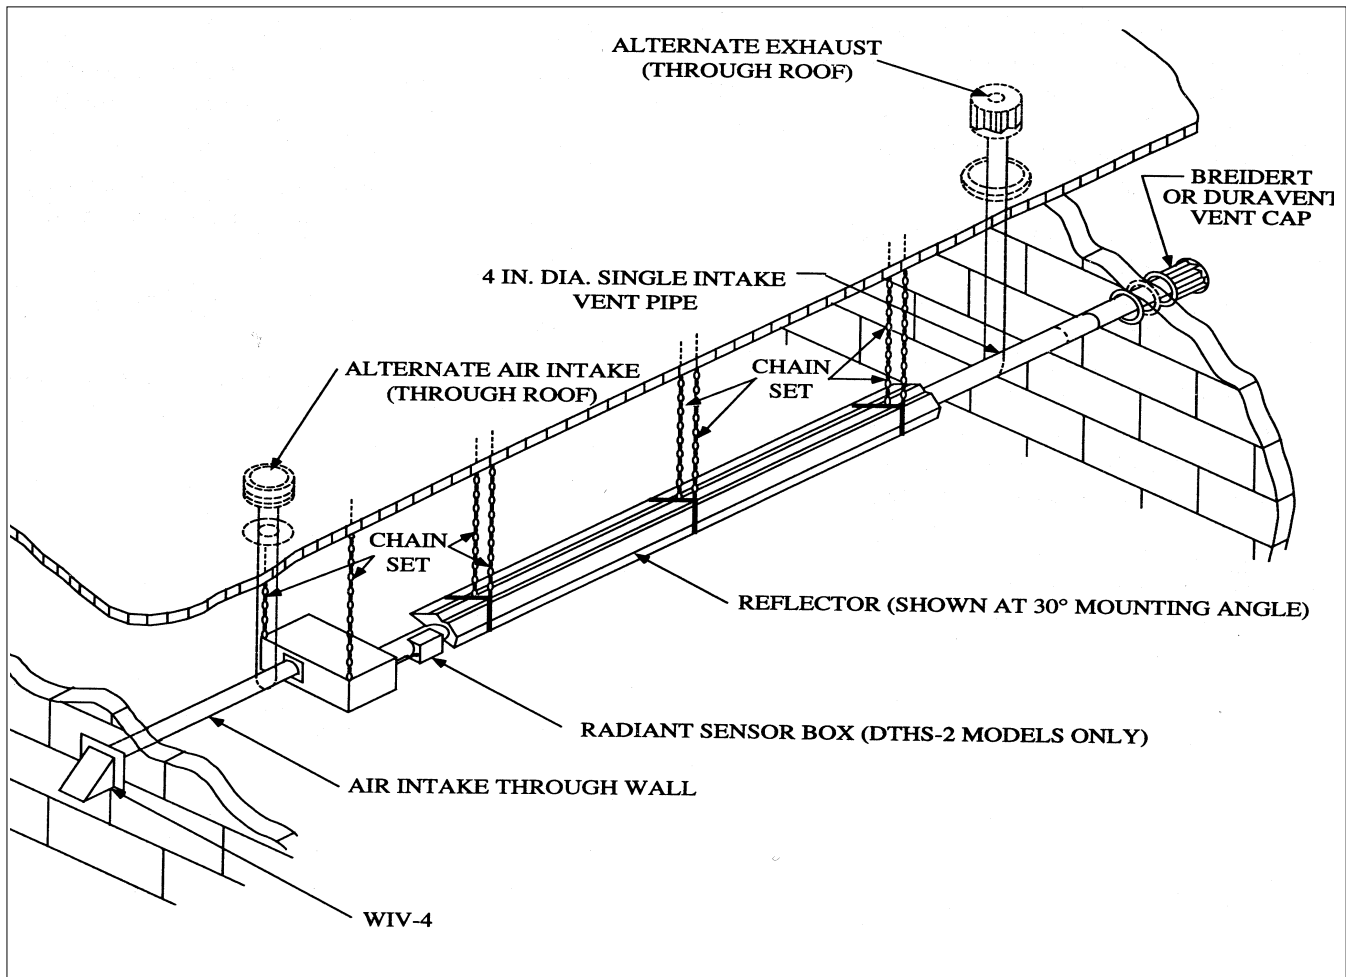

Figure 1-2
1. Make sure the finished installation will conform to the design requirements listed in the Clearance To Combustibles Chart (1) and the figure shown on page 3, and Figures 1-2 and 1-3.